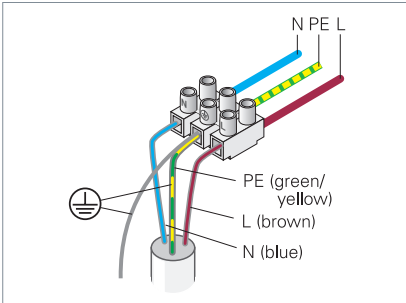

Fig. 7: Connecting the luminaire with sensors.
- ▶ Connect the wire rope at the connection side of the luminaire to the protective earth conductor terminal, see Fig. 7.